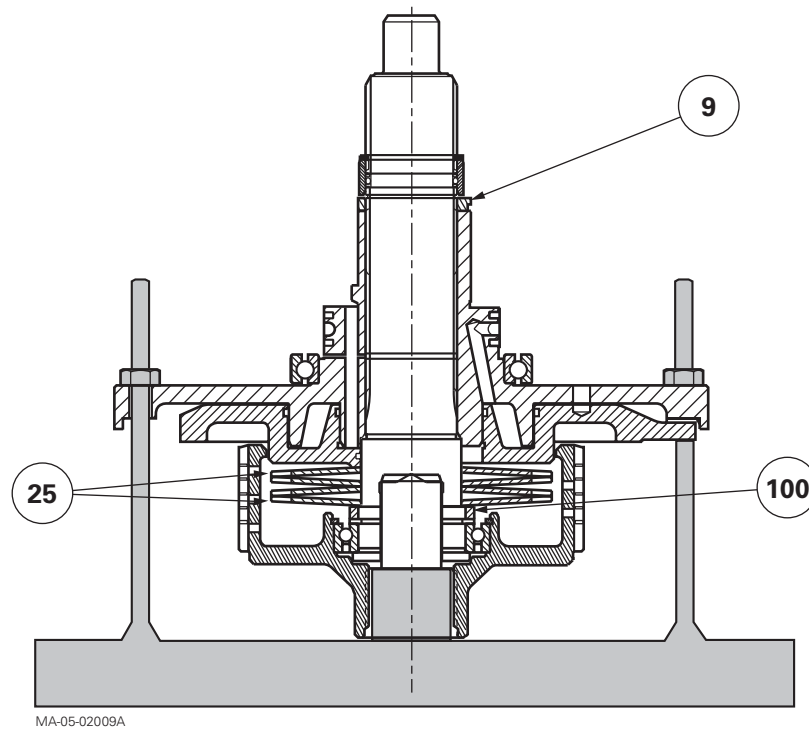

Fig. 6
23. Separate cover (33) from unit (18). Remove clutch discs (29) and intermediate plates (30).
24. Remove the front snap ring (9). Remove the splined ring (6), the anti-extrusion rings (8) and seal (7).
25. Take off circlip (11). Remove the cover (2) from the pump (14) complete with bearing (12).
26. Pull the lubricating pump out of the pump unit (1) and take it apart from the clutch housing (18).
27. Remove seal rings (15). If necessary, extract ring (16) and remove the 1.5 bar valve (73).
28. Place the partially disassembled clutch on a suitable locally made fixture (Fig. 6 and § G).
29. Compress the Belleville washers (25) and remove the rear snap ring (9) (Fig. 6).
30. Remove locking ring (5). Gradually release the Belleville washers.
31. Split unit (18) fitted with piston (28) from shaft (19).
32. Remove the Belleville washers and the ring (100).
33. Remove snap ring (23). Pull out the shaft (19) complete with bearing (22) from hub (27).
34. Take off circlip (21). Extract bearing (22) from shaft (19).